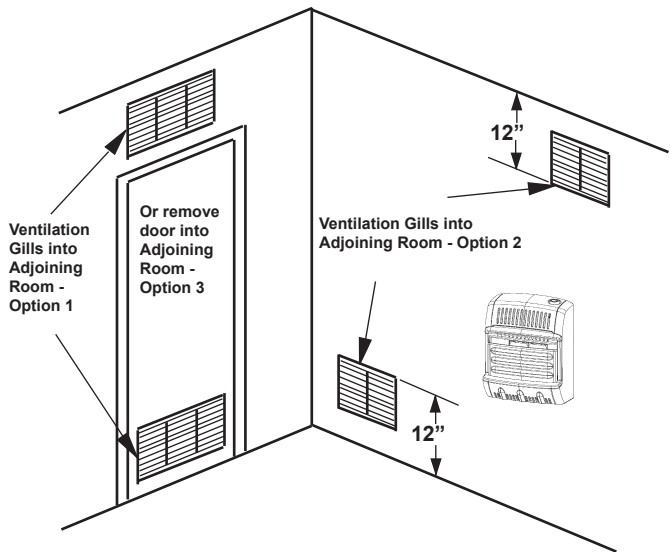

Figure 2.
- A. Rework worksheet, and the space of an adjoining room. If the extra space provides an unconfined space, remove door to adjoining room or add ventilation grills between the rooms. See Ventilation Air From Inside Building (Fig. 2).
This fresh air would come from an adjoining unconfined space. When ventilation to an adjoining unconfined space, you must provide two permanent openings: one within 12" of the ceiling and one within 12" of the floor on the wall connecting the two spaces (see options 1 & 2 of fig. 2). You can also remove door into adjoining room (see option3, fig 2). Follow the National Fuel Gas Code NFPA 54/ ANSI Z223.1, Section 5.3, Air for Combustion and Ventilation for required size of ventilation grills or ducts.